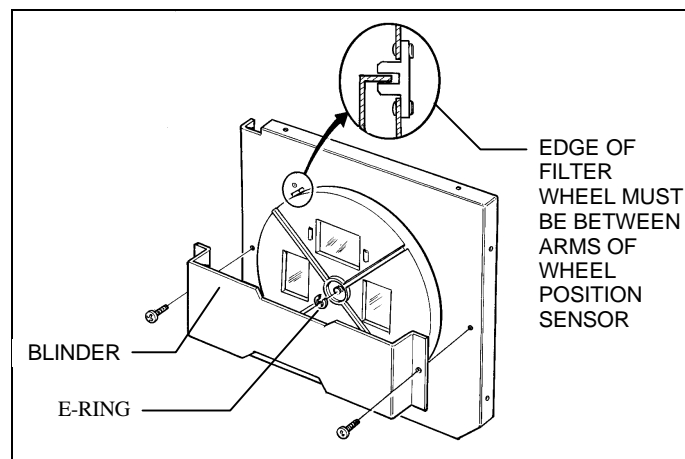

Figure 6-28. Removing the Filter Wheel
7. Remove two screws which hold the filter wheel blinder in place. (Figure 6-28)